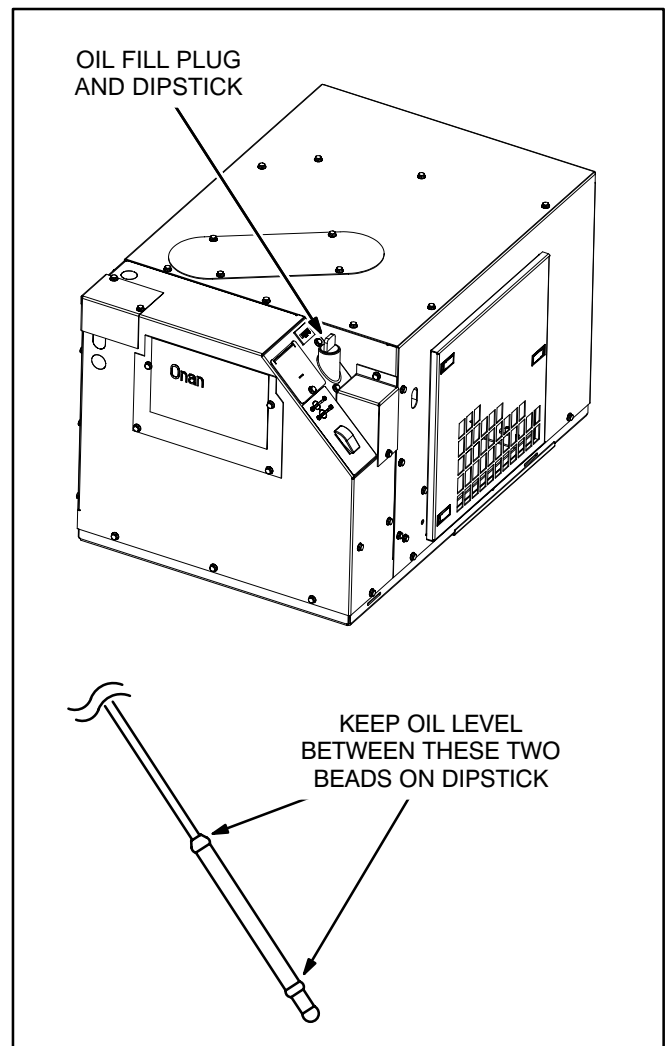

FIGURE 9. CHECKING ENGINE OIL LEVEL
1. Pull the plug and dipstick out of the oil fill neck (Figure 9). The plug may be difficult to pull straight out. It is easier if you tilt the plug in its socket while pulling out. Wipe off the dipstick and thread it back into the fill neck and seat the plug, which snaps into its socket. Remove the plug and dipstick again and check the oil level on the dip stick.